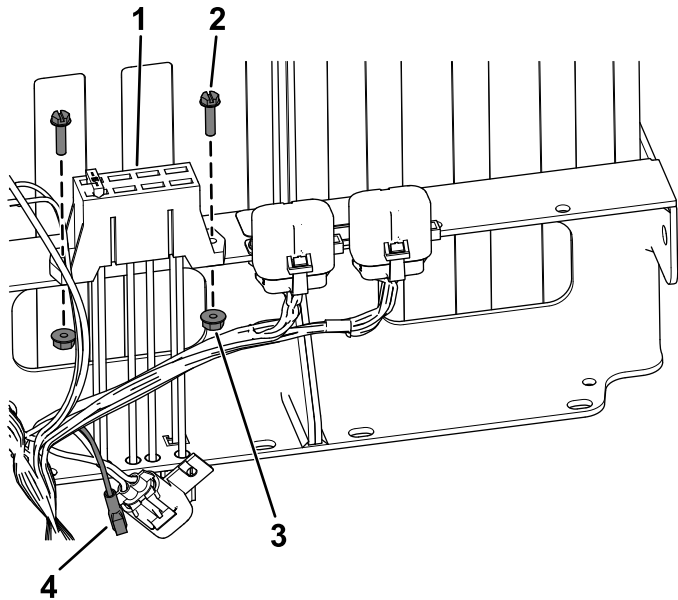

Figure 18
the 2 hex-washer head screws (#10 x 3/4 inch) and 2 serrated nuts (#10) as shown in Figure 18.
- For machines with Serial No. 403448001 and after, connect the female connector on the harness to the new fuse block (Figure 18).